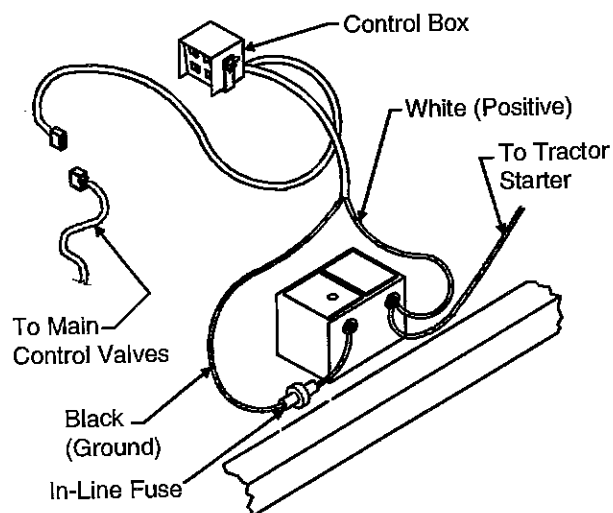

Figure 8. Control Box Power Connection
1. Install the control box in the tractor cab and connect the power cord to a suitable 12 V power supply as shown in Figure 8. (White to Positive, Black to Negative).